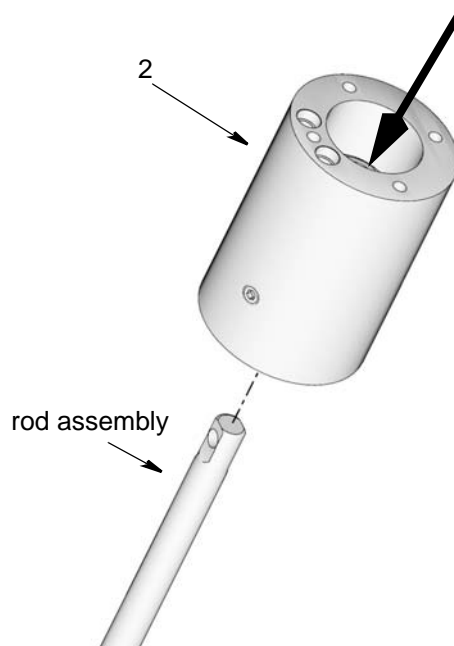

FIG. 32
19. Remove intake seal (207) and seal (206). Discard these parts. Use new parts included in the kit for reassembly.
20. Use a hammer or rubber mallet to tap the rod assembly out of the pump adapter (2) in the direction shown in FIG. 32.